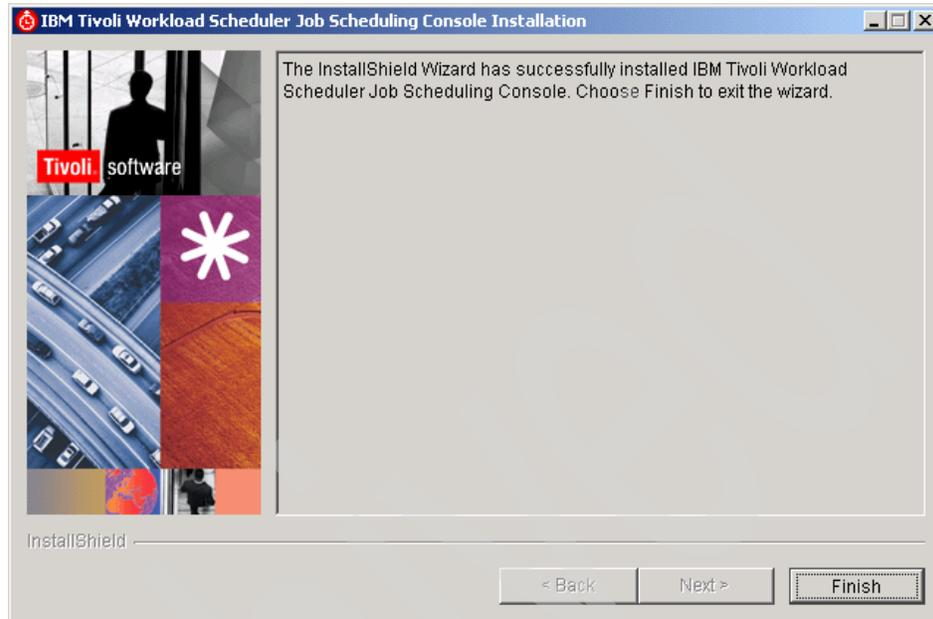

Figure 16-16 JSC successfully installed
8. Installation begins. When this is complete, you will see the Finish window (Figure 16-16), which indicates that the JSC was installed successfully.